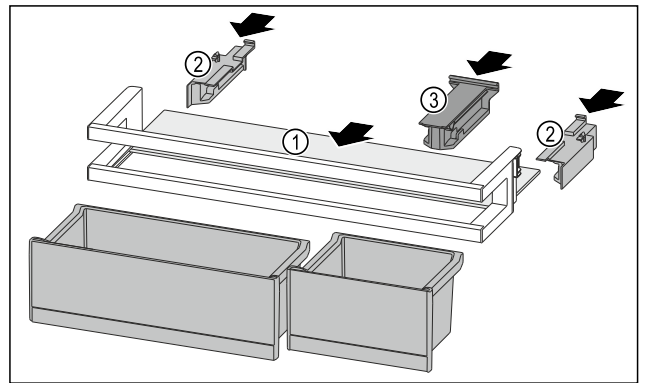

Fig. 91
- ▶ Push the shelf Fig. 91 (1) into the side recesses.
- ▶ Insert the side parts Fig. 91 (2).
- ▶ Insert the holding part Fig. 91 (3).